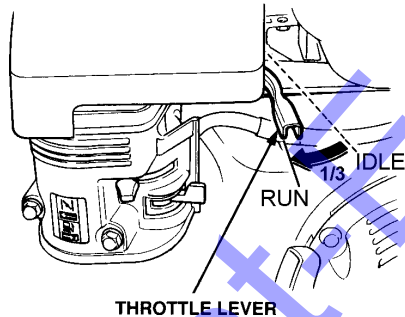

Figure 9. Throttle Lever (1/3 Start Position)
2. Move the throttle lever (See Figure 9) away from the slow position, about 1/3 of the way toward the fast position.